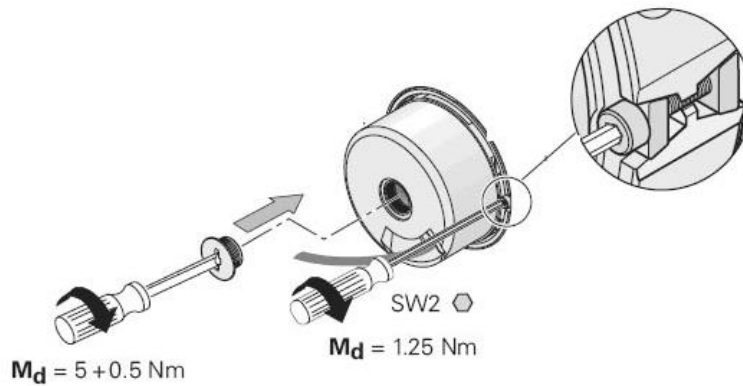

Figure 29: Install end cover and tighten M2.5mm bolt
4. Install the end cover, and then tighten the end cover-bolt. Use 4mm Allen socket and torque wrench to tighten the bolt to 44 in-lb. See Figure 29.